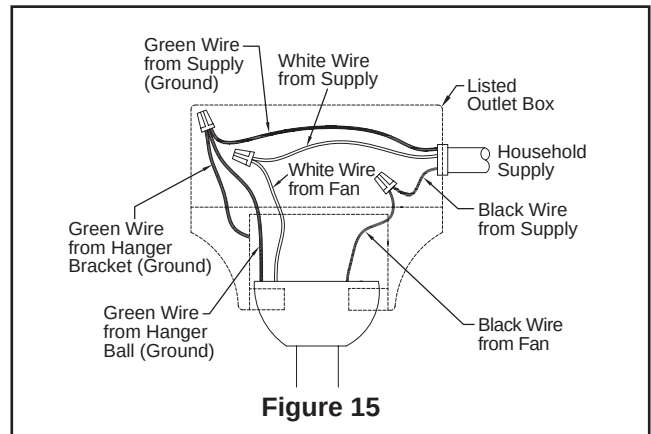

Figure 15
2. After connections have been made, turn leads upward and carefully push leads into the outlet box, with the white and green leads to one side of the box and the black leads toward the other side. The wires should be spread apart with the grounded conductor and the equipment-grounding conductor on one side of the outlet box and the ungrounded conductor on the other side of the outlet box. (Figure 15)